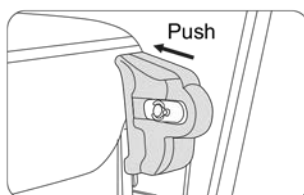

Figure 13
- The calf rest decoration cover is a card slot design, make an effort to push it during assembly (Note: Keep the cover tight with the side), armrest installation is completed. (Figure 13)